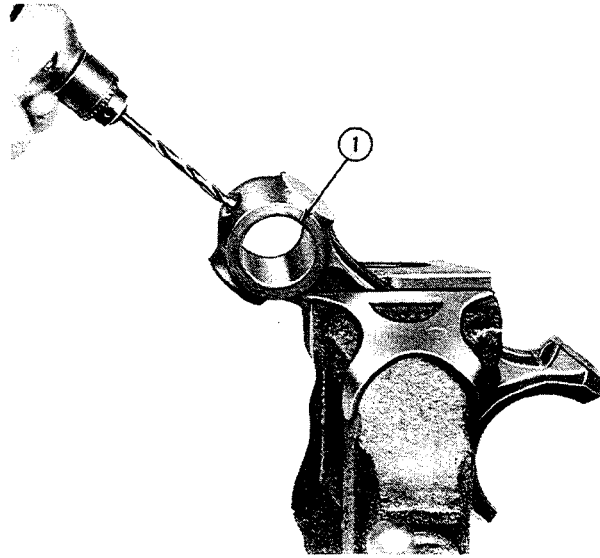

Figure 49
3. **TW10:** Using the hole in the top of the connecting rod as a guide, drill a 3/64 inch (1.21 mm) diameter hole in the bushing, Figure 49.